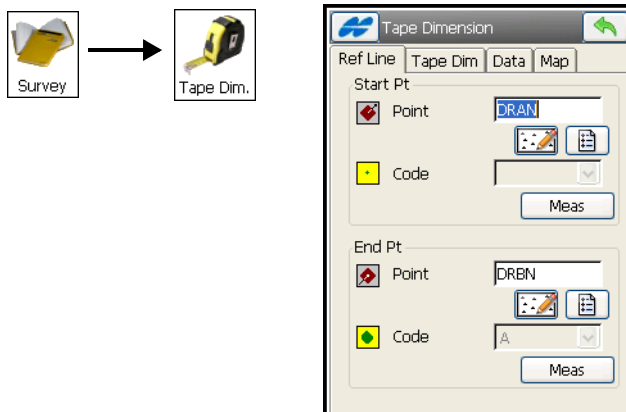

Figure 8-31. Tape Dimension – Ref Line Tab
1. To start working, tap **Survey ► Tape Dimension** (Figure 8-31 on page 8-34).
2. On the *Ref Line* tab, enter the information about the two points that comprise the reference line: the names and codes. If the reference line points are to be observed, tap the **Meas** button in the corresponding fields (Figure 8-31 on page 8-34).